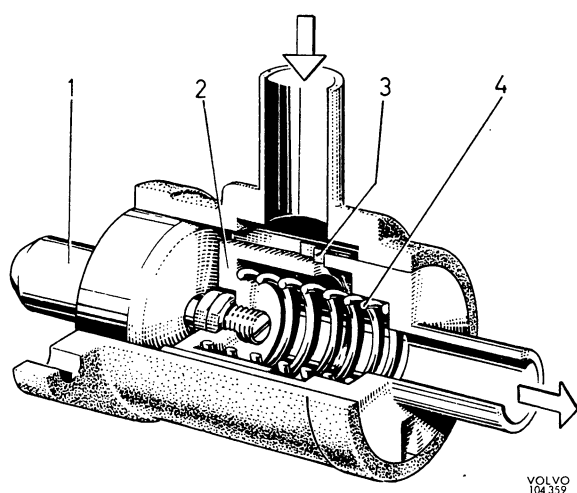

Fig. 2-72. Auxiliary air regulator
At cold start, the auxiliary air regulator opens (how much will depend on the temperature) and admits additional air into the inlet duct. Gradually, as the engine heats up, the capillary tube (1, Fig. 2-72) expands and presses back the regulator slide (2)